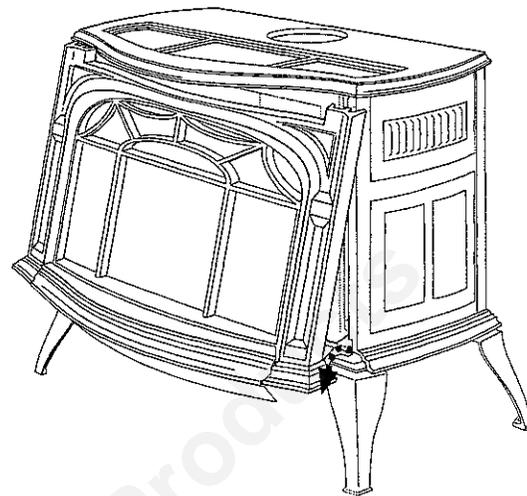

Fig. 7. Remove the front plate.
2. *Remove the Front Plate.* Grasp one side and the bottom, and lift the front plate as a unit (the control door attaches to the stove front) Swing the bottom edge out and away from the stove body; see Fig 7